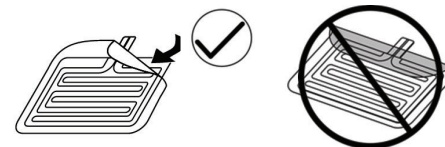

Figure 1: Liner Removal
3. Slowly remove the liner from the dispersive electrode diagonally as shown in Figure 1. Do not damage hydrogel layer. After liner removal, carefully inspect the pad to ensure that no hydrogel has separated from the underlying layers. If hydrogel separation is present, discard the pad.